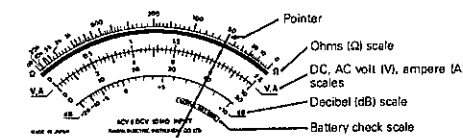

Fig. 3 Scale Plate
- Pointer of indicator: Indicates as shown in Fig. 3.